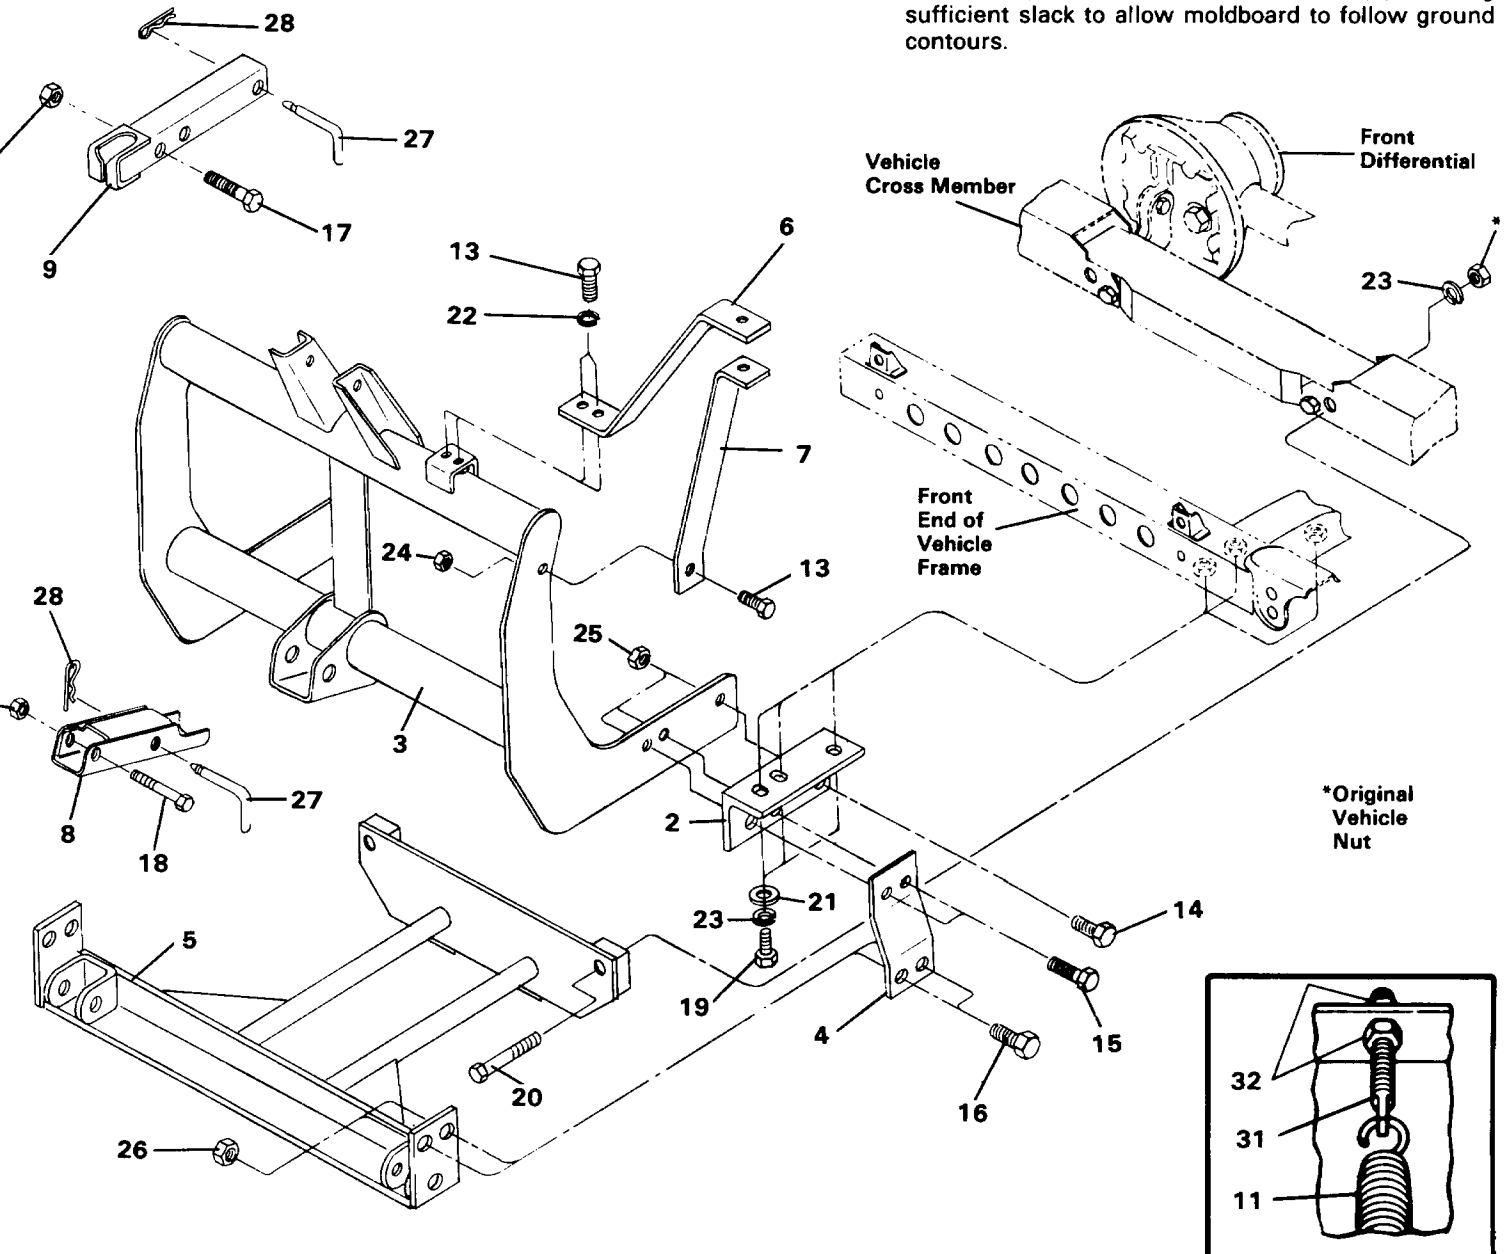

FIGURE 1
- F. Attach Light Brackets (6) to Weld Nuts in Lift Frame (3) using 3/8 x 1-1/4" Bolts (13) and 3/8 Lockwashers (22). Assemble Light Brace (7) to Light Bracket (6) using 3/8 x 1-1/4" Bolts (13). Using Light Brace (7) as a template, drill a 7/16" hole through Lift Frame (3) side plate. Attach using 3/8 x 1-1/4" Bolts (13) and Locknuts (24). Attach snow plow lights to Brackets (6 & 7). Before tightening bolts, make certain vehicle hood will clear back of snow plow lights. Adjust as needed and tighten all fasteners.
- I. Assemble Electro-Touch Unit to support arm (8) with 5/8 x 3-1/2" Bolt (18) and lift arm (9) using 5/8 x 2-3/4" Bolt (17) and 5/8 Locknuts (26). Install on Lift Frame (3) using quick disconnect pin (27) and hair pin cotter (28).
- K. Attach pivot bar (10) to moldboard (42) using pivot bolts (33) coated with chassis lubricant, and 5/8" locknut (36).
- L. Attach trip springs (11) to pivot bar (10) and moldboard (42) with eye bolts (31) and locknuts (32). Flat end of eye bolt (31) must be in a vertical position, as shown in Figure 1, to hinge properly when moldboard (42) trips. Proper tension is attained when trip spring (11) coils begin to separate and then tightening top locknut (32) four additional turns. Tighten bottom locknut (32) to secure eye bolt (31) in position. See Fig. 1.
- M. Assemble A-frame (12) to pivot bar (10) using king bolt (34) and 5/8" locknut (36). Grease king bolt (34) prior to installation.
- N. Install Power-Angling Rams with fitting end to the A-frame (12). Clevis using 5/8 x 3-1/4" bolt and 5/8" locknut (packed in hardware bag 08363 in Electro-Touch carton). Attach piston end of ram to pivot bar (10) using 5/8 x 4-1/2" bolt (35) and 5/8" locknut (36).
- O. Straighten end of plow markers (37) so they will be vertical after installation. Attach using 1/4" x 1" bolt (39) clamp (38), 1/4" locknut (40), and lockwasher (41).
- P. Secure the Moldboard-Pivot Bar-A-Frame assembly to vehicle at Clevis Frame (5) using quick pins (29) and cotters (30). Attach lift chain to lift arm (9) allowing sufficient slack to allow moldboard to follow ground contours.